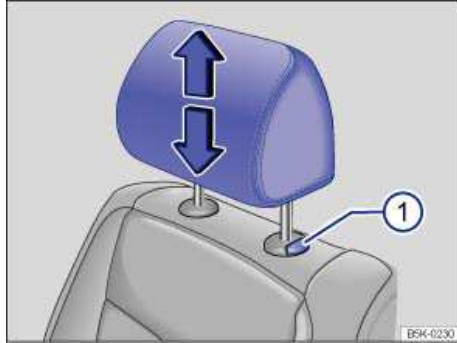

Fig. 36 Adjusting the head restraints.
- Pull the head restraint up in the direction of the arrow, or push it down while pressing the button ⇒ fig. 36 (1) ⇒ ⚠.